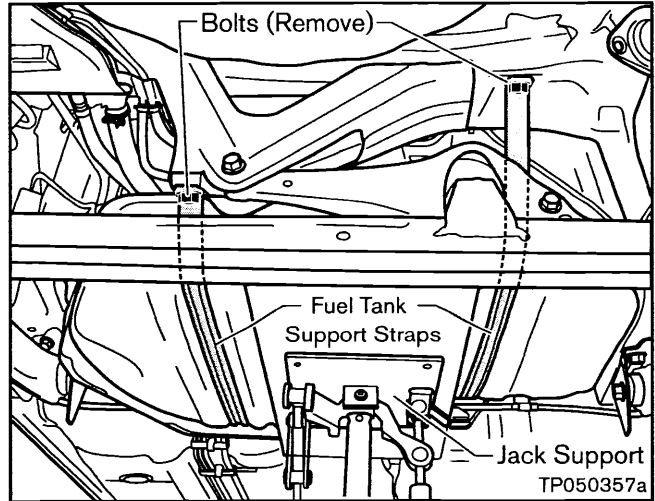

Figure 10
8. Place a suitable Jack under the Fuel Tank and then remove the two Bolts that secure the Fuel Tank Support Straps (see Figure 10).